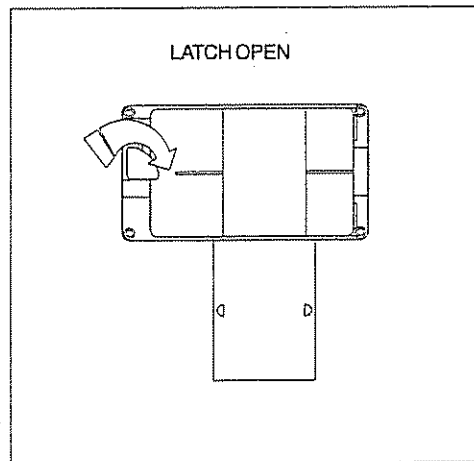
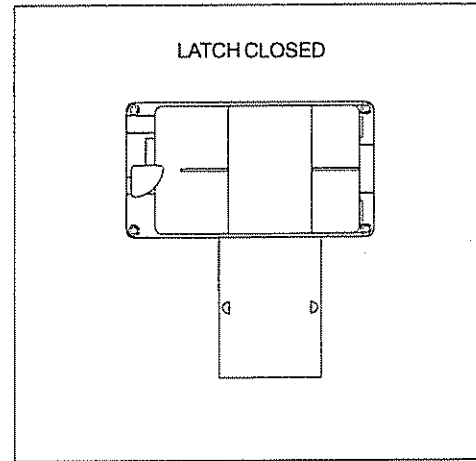

Figure 26
Figure 26A
1. Rotate the manual latch in a clockwise direction from its open position as shown in Figure 26 until its upper edge is horizontal as shown in Figure 26A.